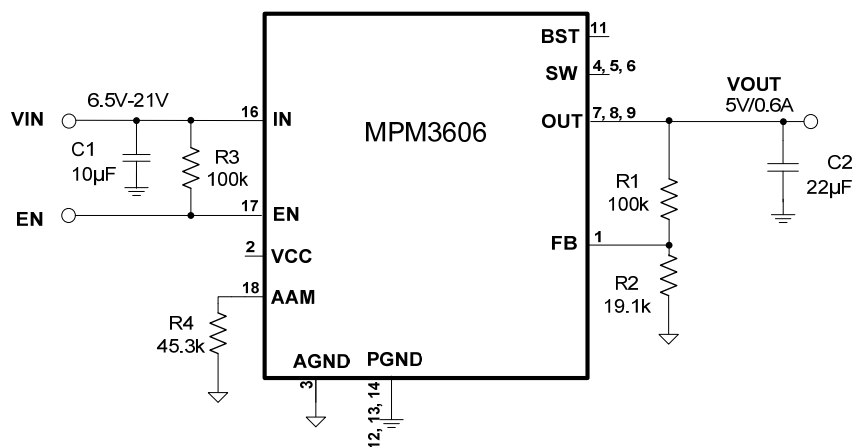

Figure 8: $V_{OUT}=5V$, $I_{OUT}=0.6A$
- 10) The recommended layout is based on the Figure 8 Typical Application circuit on page 16.
The detailed application schematic is shown in Figure 8 through 13. The typical performance and circuit waveforms have been shown in the Typical Performance Characteristics section. For more device applications, please refer to the related Evaluation Board Datasheets.